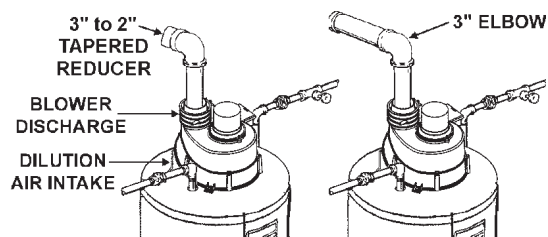

FIGURE 5
3. Make sure there is no packing material in the discharge of the blower or the intake of the dilution air restrictor. See Fig. 5.
Figure 5 shows the optimal placement of the 3" to 2" reducer; however, the vent can be reduced at any point in the vent system as long as the 2" vent tables are followed.